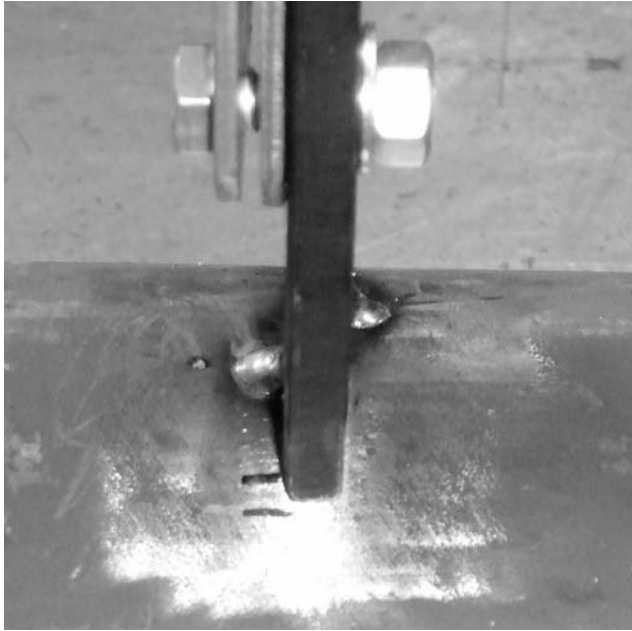

Figure 4. S-cam bracket tack weld placement
5. Making sure both items to be welded are free from moisture, dirt, scale, paint and grease, tack the S-cam bracket assembly in place on the axle tube using a 1/4-inch (6mm) tack weld on each side of the S-cam bracket (figure 4). The tack welds should be offset from each other about 1/4 inch (6mm) from the center of the S-cam bracket (figure 4).